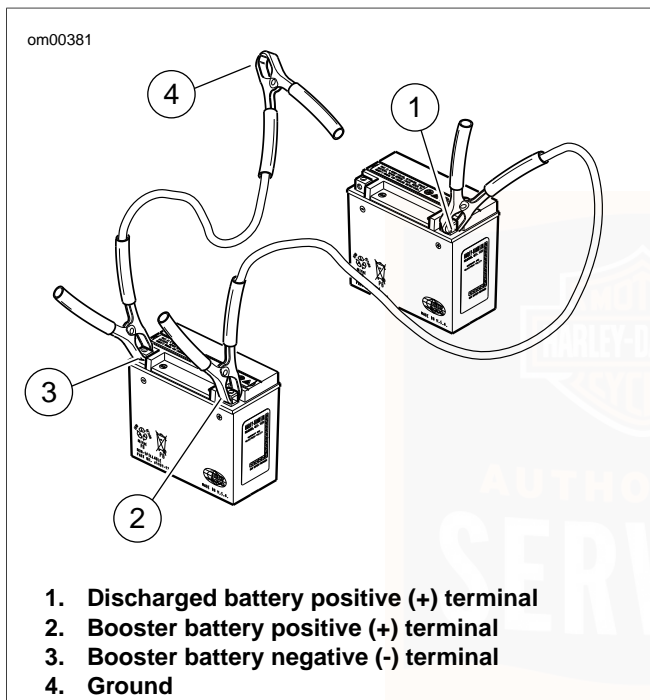

Figure 79. Jump Start Cable Connections
2. See Figure 79. Connect one end of a jumper cable to the DISCHARGED battery positive (+) terminal (1).
3. Connect the other end of the same cable to the BOOSTER battery positive (+) terminal (2).